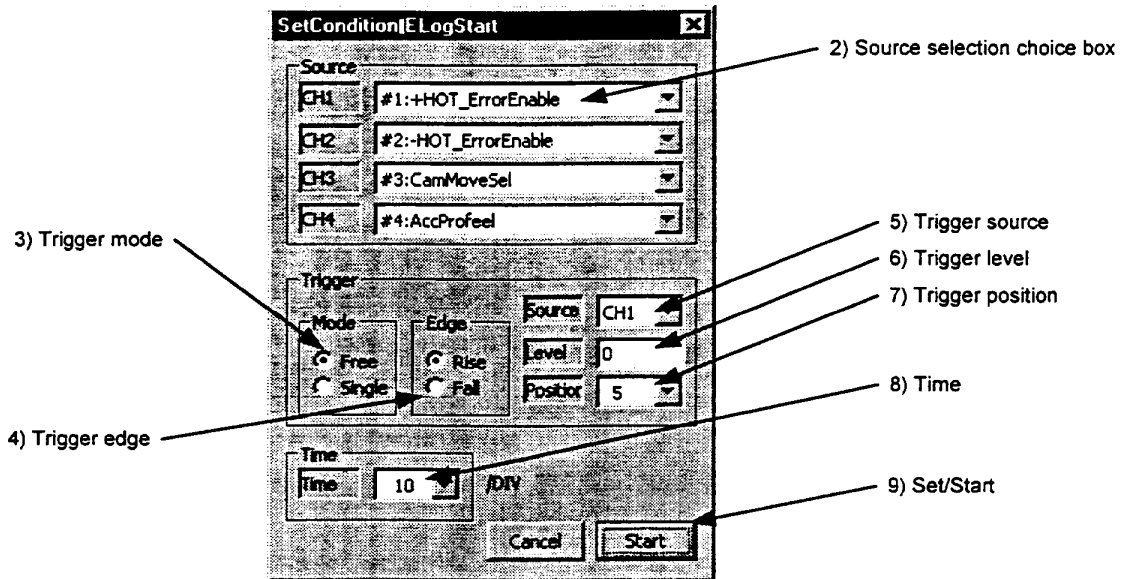

Figure 7.19 "SetCondition/ELogStart" dialog box
- (1) Click "Log Start" on the "Oscilloscope" dialog box to display the "SetCondition/ELogStart" dialog box (see Figure 7.19).